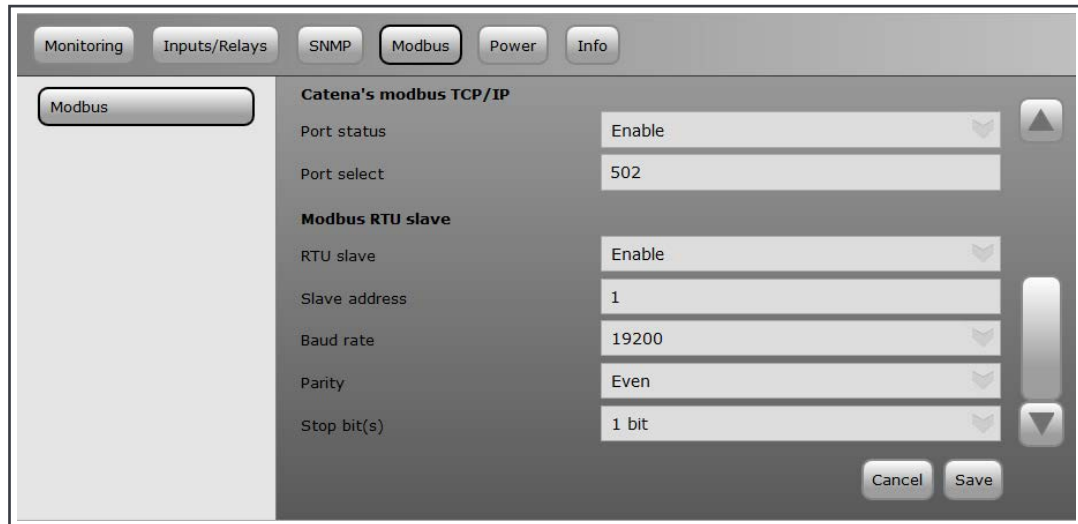

Fig 7: Modbus settings in T2S ETH
- Verify the **Modbus RTU** parameters are matching with the **T2S-ETH** in the Modbus section (Fig 7).